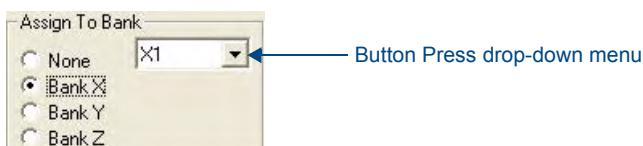

FIG. 74 Assign to Bank X, X1 selected
4. Select **X1** from the Button Press drop-down menu (FIG. 74):